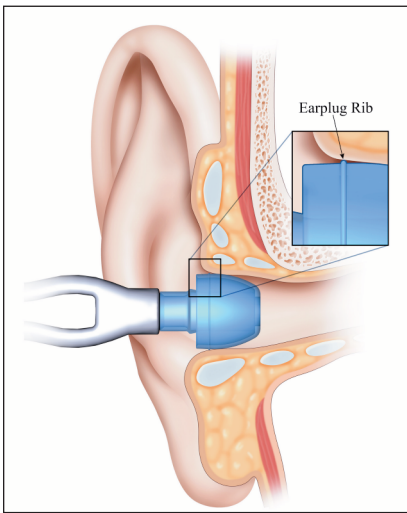
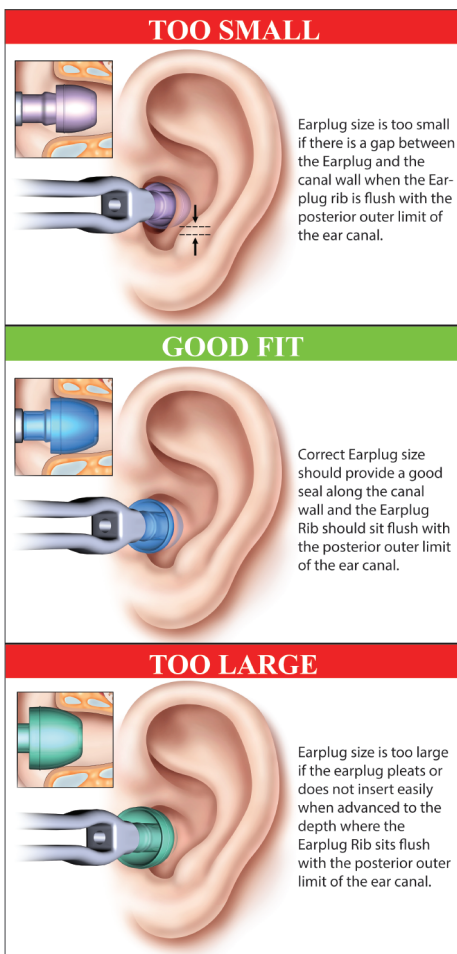

Figure 9. Earplug Rib
Figure 10. Examples of Proper and Improper Earplug Fit
- a. To assess fit, place the soft silicone Earplug of the Earplug Sizer inside the ear canal. Ensure that the rib of the Earplug (**Figure 9**) sits flush with the posterior outer limit of the ear canal (**Figure 10**). The Earplug should provide a good seal while being comfortable for the patient.